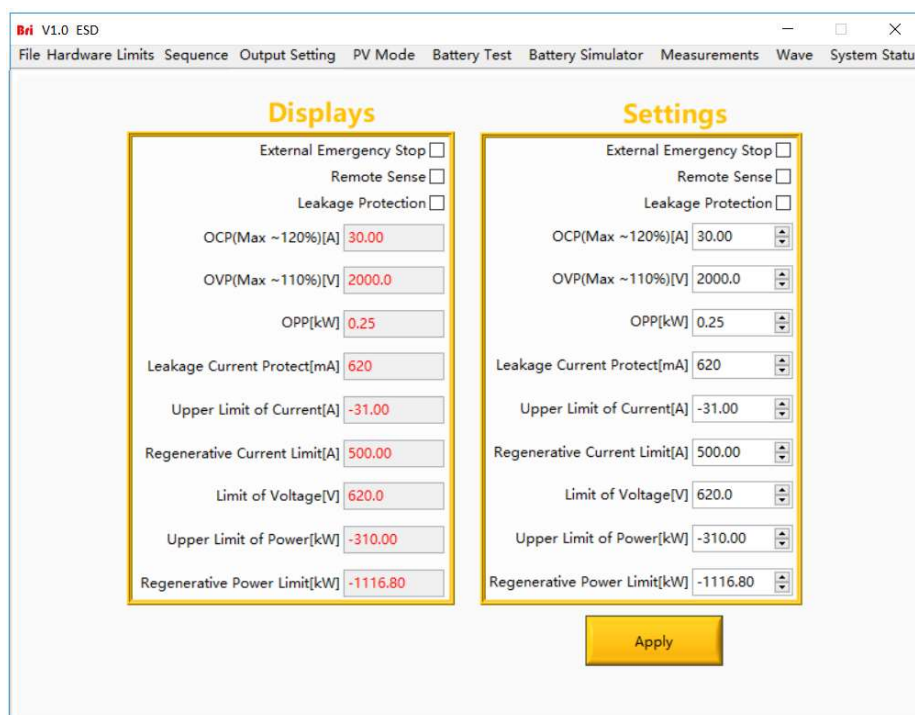
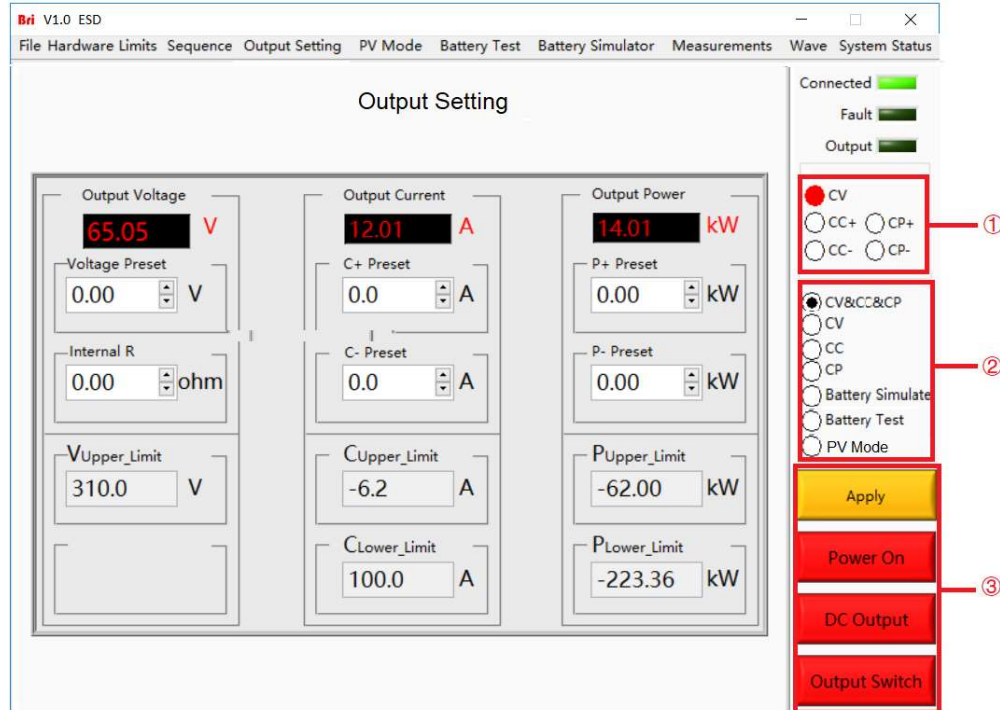

Figure 5-7 Hardware limits panel
Figure 5-8 Output setting panel
Click "Hardware Limits" to enter the panel (Figure 5-7). After setting the parameters, click "Apply", the corresponding voltage, current, and power limits displays at the bottom of Figure 5-8.
After setting the hardware limit, click "Output Setting" (Figure 5-8). Select the mode (Figure 5-8②) and set the parameters. After completion, click "Apply" → "Power On" → "DC Output" → "Output Switch", the power supply starts to work.